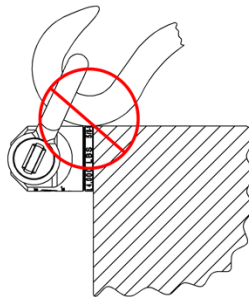

Fig 2
- Make sure the shackle or hardware attached to it does not come in contact with the workpiece or any obstacles during the lift. The shackle must not bind on the edge of the workpiece. Use spreader beam to avoid binding (Fig.2).
Acceptable pulling area, restrictions apply (see Fig.2 and Safety Information above)